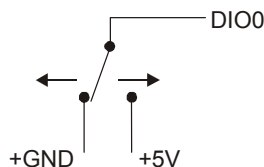

Figure 11. Schematic showing switch detection by digital channel DIO0
When you configure the digital bits for input, you can use the RedLab TEMP-AI digital I/O terminals to detect the state of a TTL-compatible device. Refer to the schematic shown in Figure 11. If you set the switch to the +5V input, DIO0 reads *TRUE* (1). If you move the switch to the GND, DIO0 reads *FALSE* (0).